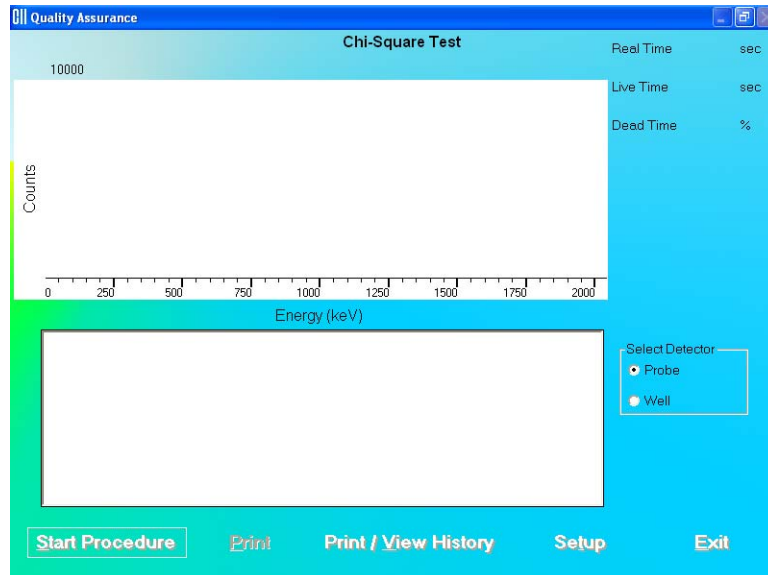

Figure 5-16 Chi-Square Test Screen
1. Click the **Chi-Square Test** button or press *Alt+H* on Figure 5-1 Quality Assurance Main Screen. The screen appears as shown in Figure 5-16 Chi-Square Test Screen.
- Click the **Done** button or press *Alt+D* to save the added information or click the **Cancel** button or press *Alt+C* to cancel the changes and return to Figure 5-16 Chi-Square Test Screen.